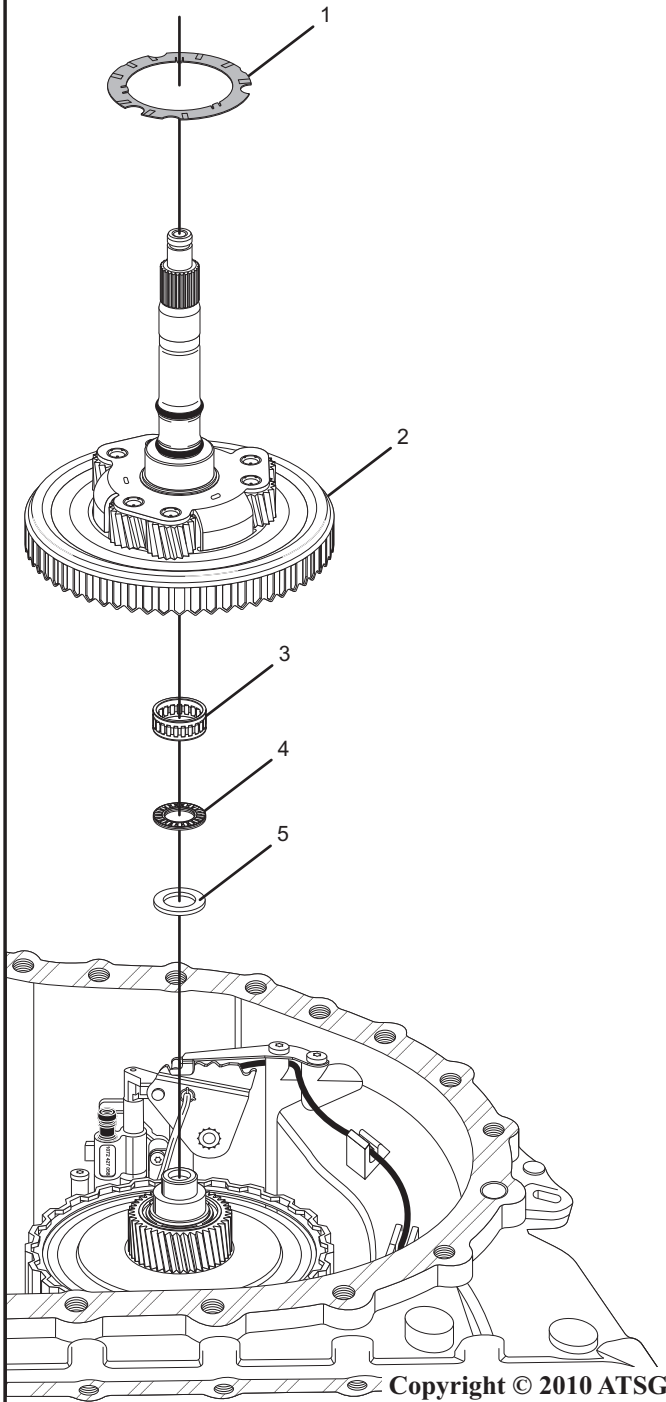

Figure 14
25. Remove the input shaft/front planetary carrier thrust washer as shown in figure 14.
26. Remove the input shaft/front planetary carrier as shown in figure 14.
27. Remove the input bearing (*caged needle bearing*) as shown in figure 14.
28. Remove the input bearing (*flat needle bearing*) as shown in figure 14.
29. Remove the thrust washer (*selective*) as shown in figure 14.